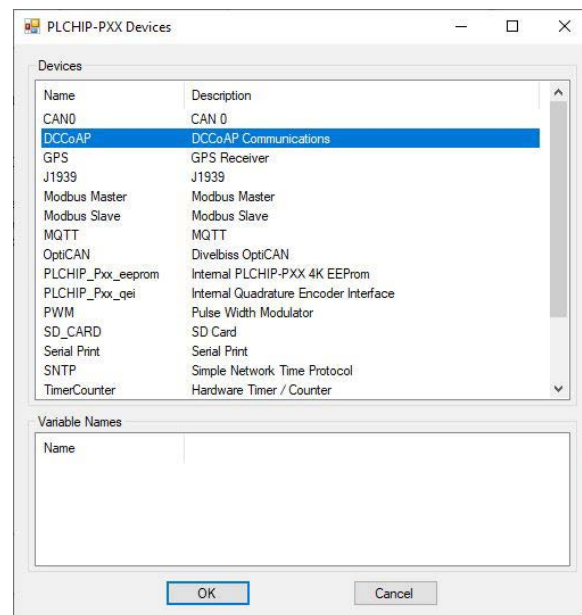

Figure 30-2
4. Find and select the **DCCoAP** option (highlight). Refer to Figure 30-2.